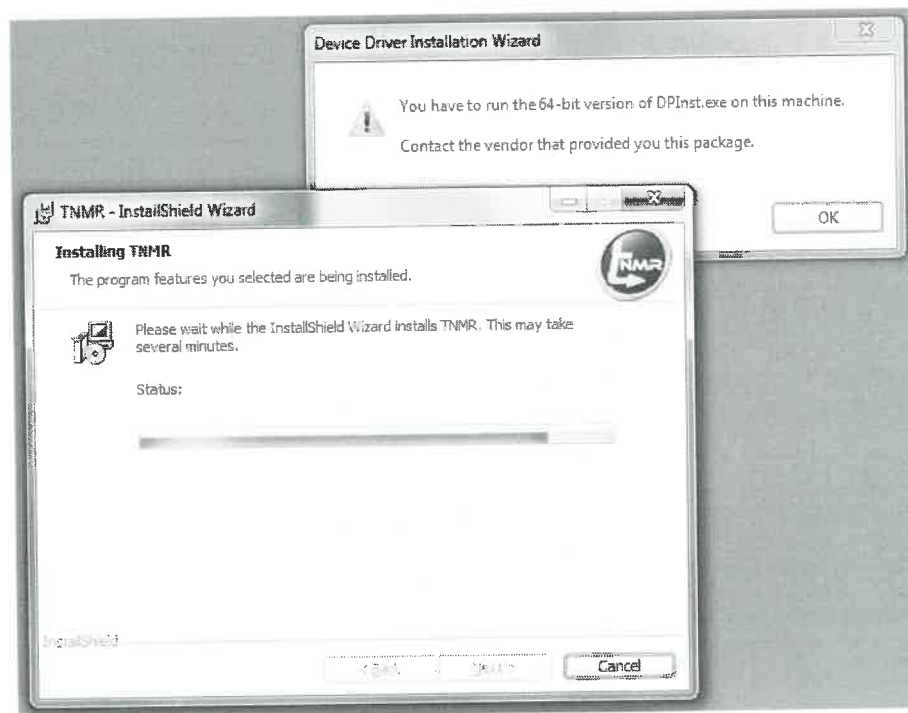

Figure 18
1. Locate the Device Driver Installation Wizard window behind TNMR Installshield Wizard and click OK. (See Figure 18)